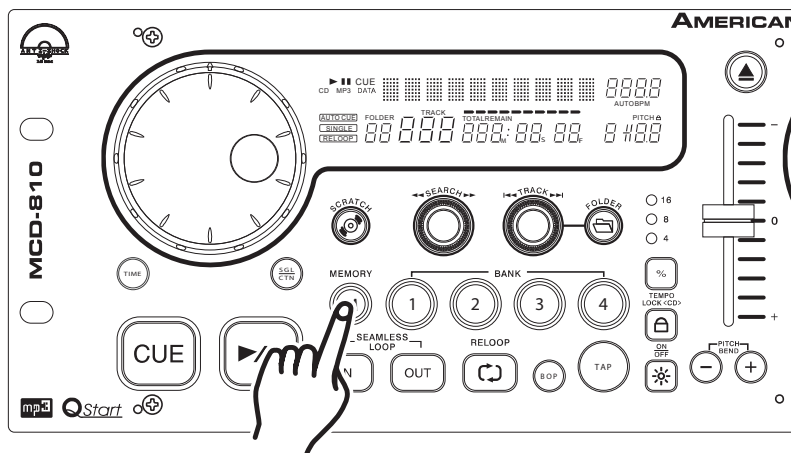

Figure 37
- 2) Press the **IN BUTTON (21)** (Figure 37) at the point you want your BOP to take place.